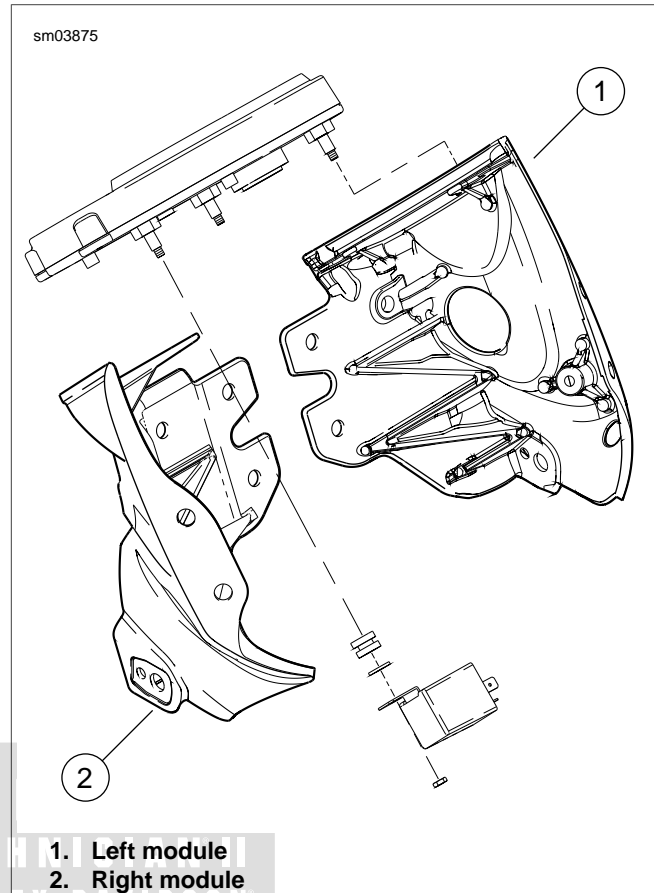
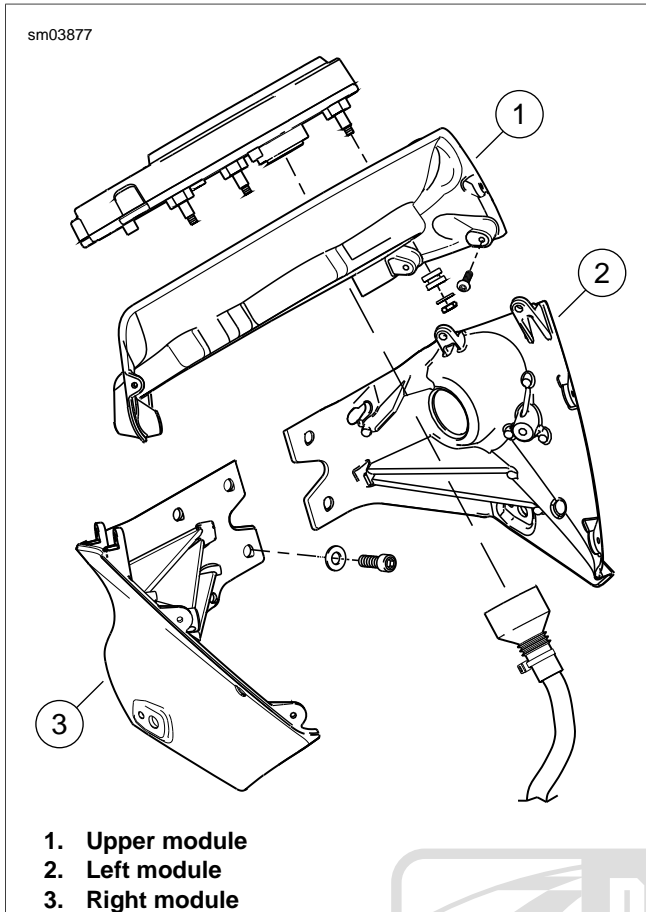

Figure 2-148. Front Modules: Lightning
Figure 2-150. Front Modules: Ulysses
7. See Figure 2-150. **Ulysses Models:** Remove upper module fasteners and remove upper module.
See Figure 2-148 (Lightning) or Figure 2-150 (Ulysses). Once the clamp load has been released on the final fastener securing the right front module to the upper triple clamp, the left front module can be removed.
12. See Figure 2-148 (Lightning) or Figure 2-150 (Ulysses). Remove the left front module.
7. See Figure 2-150. On Ulysses models, install upper module. Tighten fasteners to 36-60 **in-lbs** (4-7 Nm).